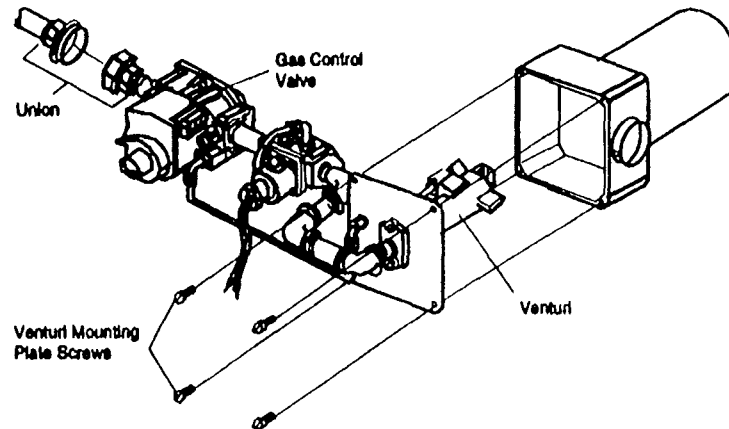

Figure 1
3. Unscrew the gas pipe union located on the Inlet side of the gas control, Refer to Figure 1.
4. Unscrew the four venturi mounting plate screws. Refer to Figure 1.
- 5 Remove the manifold and venturi assembly from the oven. Refer to Figure 1.
**NOTE: The Manifold and venturi assembly shown in Figure1 is from a**
3. Fasten the four venturi mounting plate screws. Refer to Figure 1.
4. Fasten the gas pipe union. Refer to Figure 1.